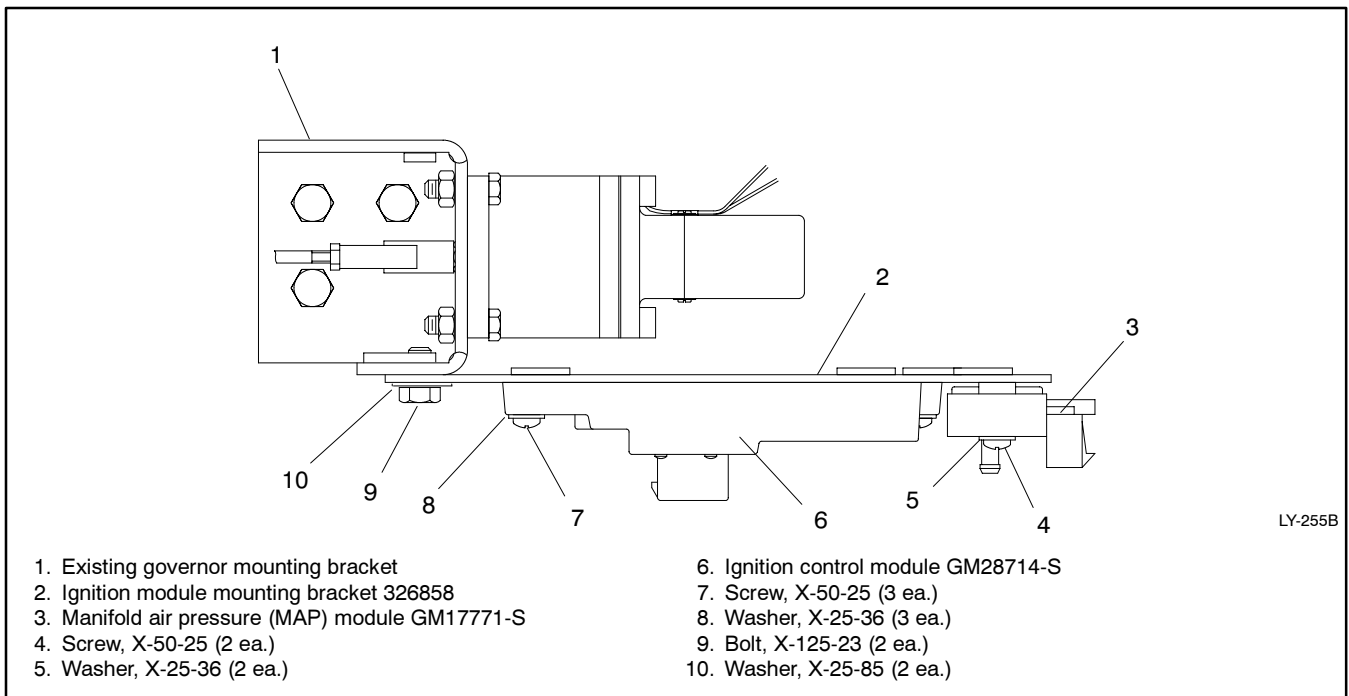

Figure 4 Ignition Module and MAP Sensor Installation on Industrial and Residential/Commercial 18/20 kW Generator Sets, Top View
3. Use two bolts (X-125-23) and two washers (X-25-85) to attach the ignition control module mounting bracket (326858) to the existing governor mounting bracket. See Figure 4.
4. Mount the new ignition control module (GM28714-S) and manifold air pressure (MAP) module (GM17771-S) onto the ignition control module bracket (326858). See Figure 4.